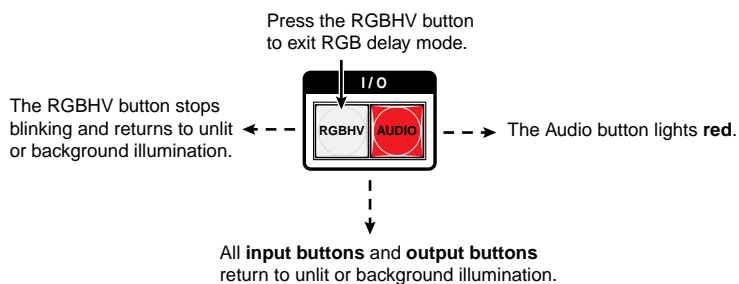

Figure 3-41 — Deselect RGB Delay mode
- Press and release the RGBHV button (figure 3-41).